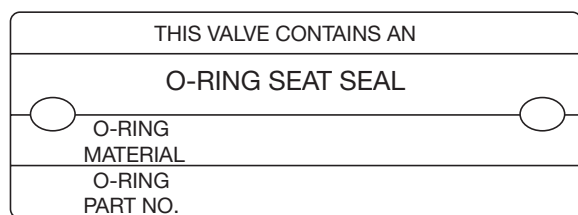

Figure 35: Valve O-Ring Tag
6. If the valve has an o-ring seat seal or Teflon™ seal (UM DA), the o-ring or Teflon™ should be replaced. Please refer to its tag plate (see Figure 35) to determine o-ring material and “as-built” part number.